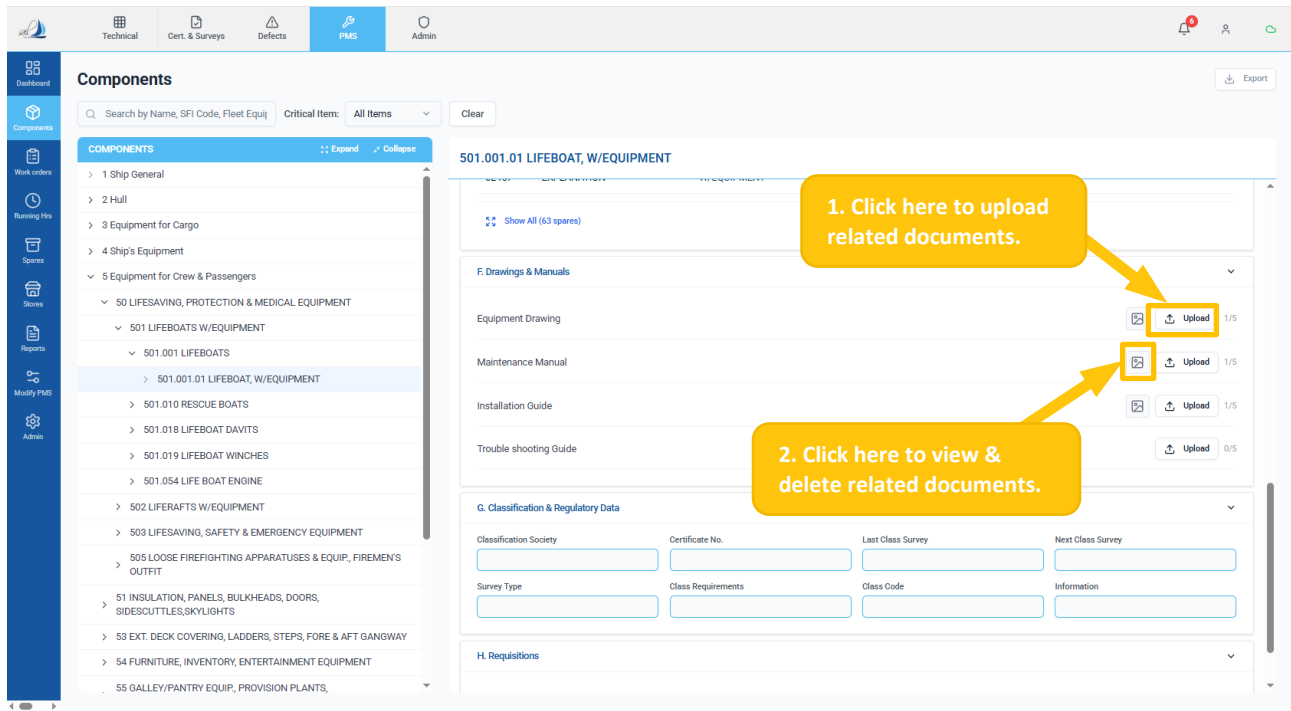

Figure 26
- In the Part F section, users can upload and view drawings, manuals, and related documents by clicking the 'Upload' and 'View (Picture)' icon buttons. (Ref Figure 26)